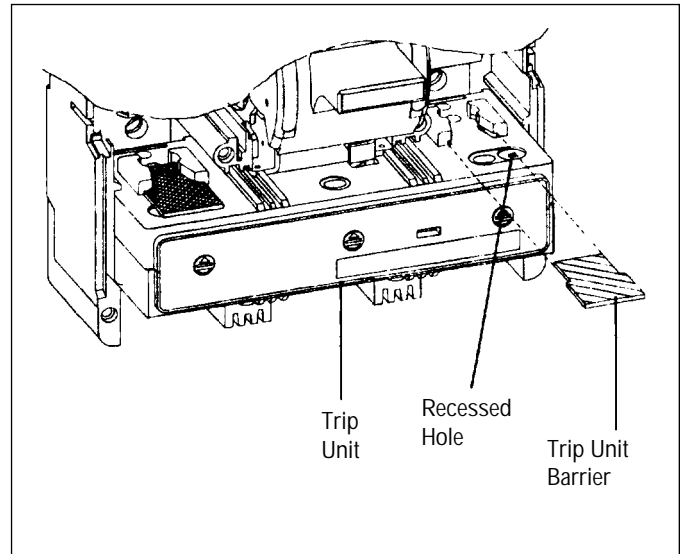

Figure 2-4 Trip Unit Barrier Removal
- 2-5. For high instantaneous trip-type (catalog suffix K designation) molded case switches, find recessed hole in either of the trip unit outer poles normally intended for intermediate plunger (Figure 2-4). Push a fine point implement in one hole to trip the molded case switch.
- a. Remove barrier from trip unit accessory mounting slots in pole being used for accessory (Figure 2-4).